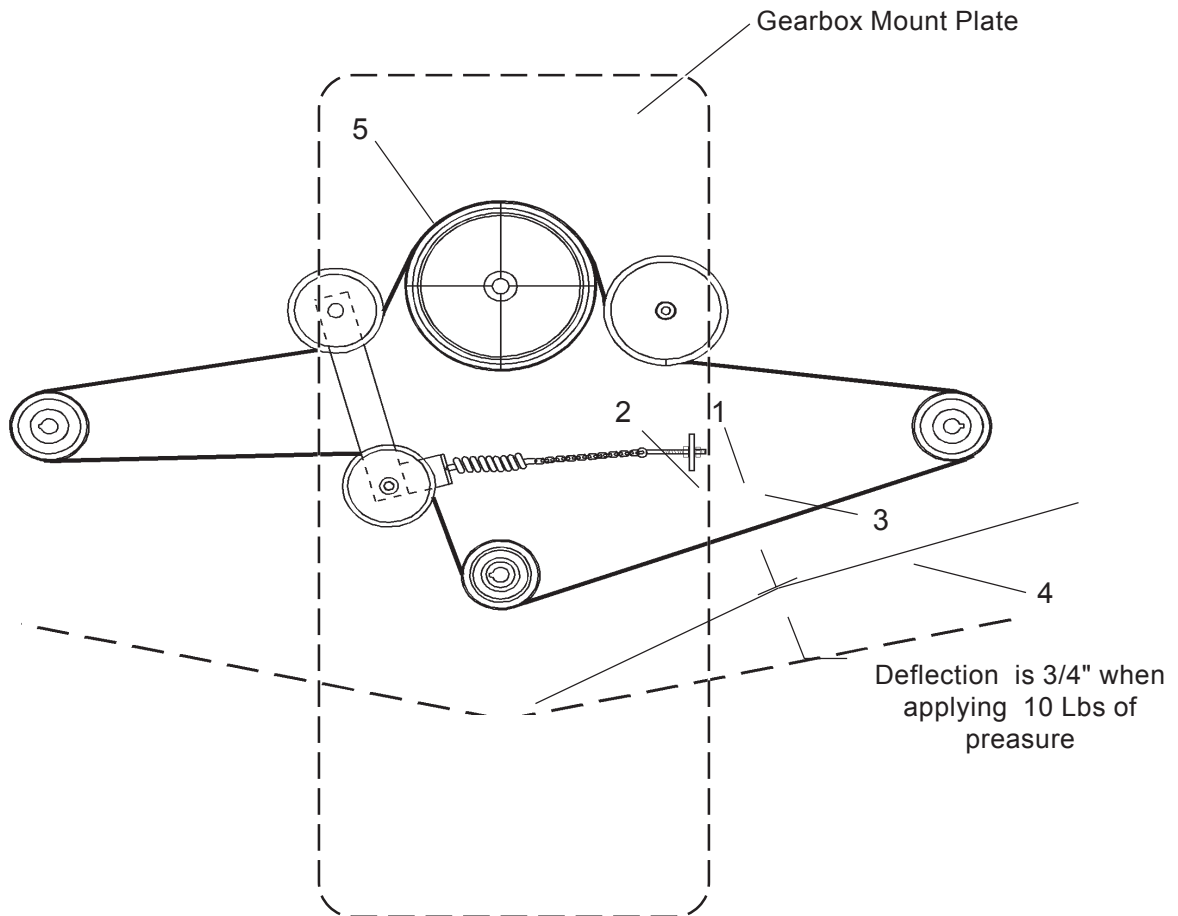

FIGURE 7
BELT ADJUSTMENT PROCEDURE Figure 7.
BELT REMOVAL/INSTALLATION Figure 7.
Shut off mower and tractor. Remove belt shield fasteners and belt shields. Loosen tension on belts as described above. Slip old belts under gearbox mount plate and under center spindle sheave (item 5). Slip new belts under gearbox mount plate and under center spindle sheave. Feed belts as shown in Figure 7 and tighten belts as described in the Belt Adjustment Procedure. Reinstall shields and shield fasteners.